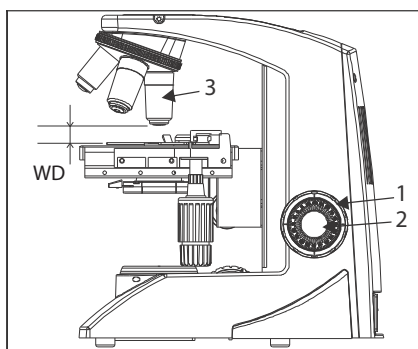

Fig. 20
1. Rotate the coarse adjustment knob (1) clockwise so that the objective (3) is as close as possible to the specimen (we recommend starting with 10X). See figure 20.
2. While observing the specimen through the eyepieces, slowly rotate the coarse adjustment knob (1) counterclockwise to lower the stage.
3. When coarse focusing of the specimen is obtained (an image is observed), rotate the fine adjustment knob (2) for fine detail focusing.